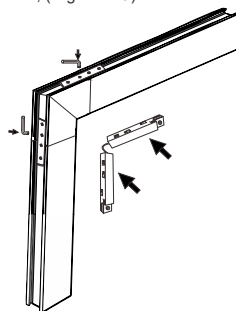

Figure4.3
3. After the two tracks are spliced together, insert the outer L-type guide connector into the splicing place of the two tracks to make the internal circuit of the two tracks Connecting conduction; (Figure 4.3)